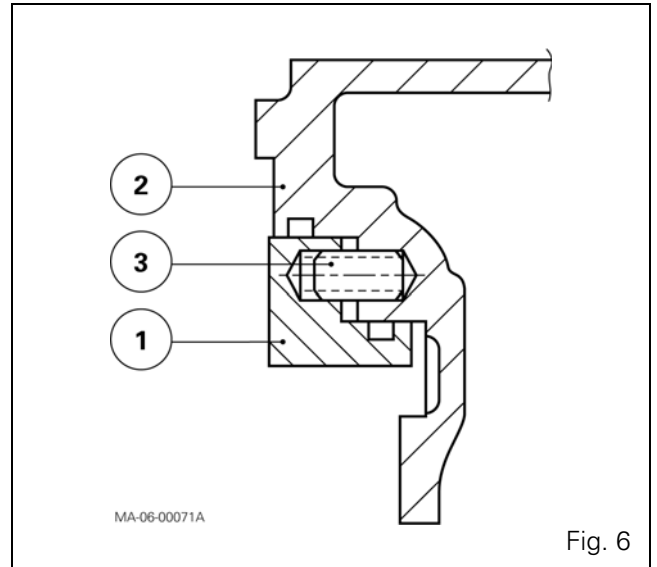

Fig. 6
7. Fit the piston (1) without seals in the housing (2) (Fig. 6). Check that the piston slides freely in the bore in the housing and that it fits onto the locating pins (3) without any friction points. After carrying out this check, remove the piston.